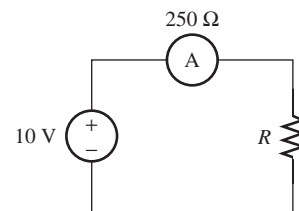

FIGURE P14.4 Circuit for Problem 14.4.
- 14.4** (H) The ammeter with a $250 \, \Omega$ resistance in Figure P14.4 reads a minimum current at 17.7 mA and a maximum current at 18.7 mA with a voltage source of 10 V.